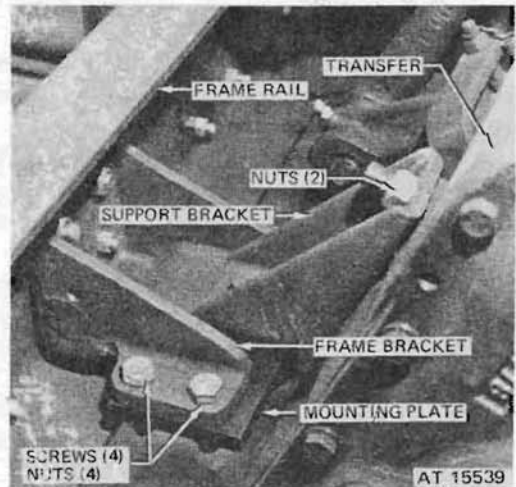

Figure 427.4 Right side transfer mounting.
(h) *Remove right side mounting plate.* Remove four 1/2-inch self-locking hex-nuts and four 1/2 x 2 3/4-inch hex-head cap screws to release the right side transfer mounting plate from transfer mounting bracket on the frame side rail (fig. 427.4).
self-locking nuts. Torque to 125-135 ft. lbs. Assemble bolt, insulator and mounting plate to right hand support bracket. Install washer and one ½-inch self-locking hex-nut (fig. 427.4). Torque to 65-70 ft. lbs.
1. Install four ½ x 1¾-inch hex-head cap screws and four ½-inch self-locking hex-nuts to secure the right hand transfer mounting plate to the transfer mounting bracket on frame side rail (fig. 427.4). Torque to 65-70 ft. lbs.